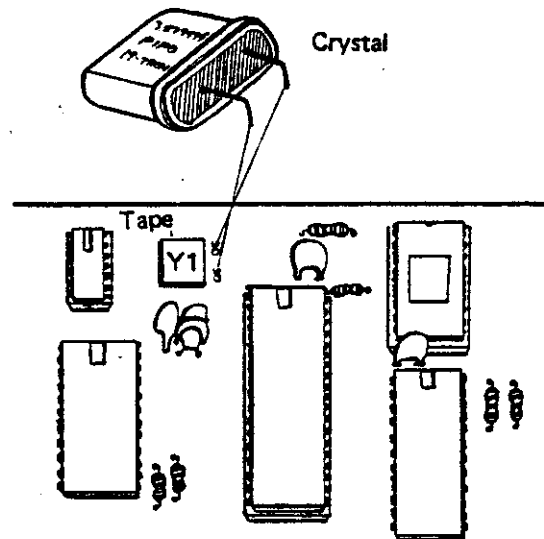

FIGURE 3: Crystal Installation
- () 33. Refer to Figure 3 and trim the crystal leads to 1/2 inch. Bend the leads 1/8" from the body of the crystal.